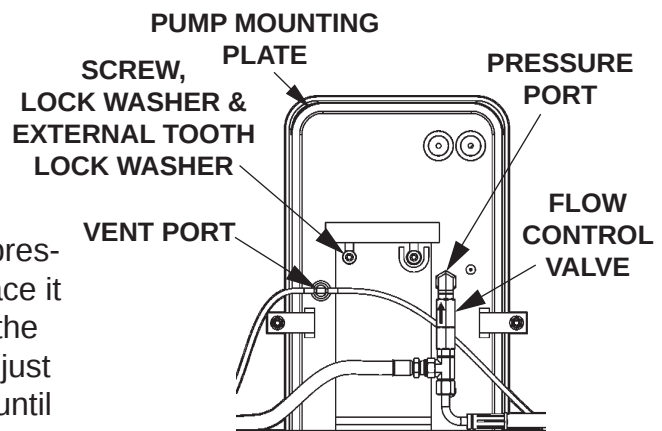

FIG. 77-3
2. Check the Hydraulic Cylinder. With the Platform on the ground, remove the Breather Plug or Vent Line from the Vent Port of the Cylinder (**FIG. 77-3**). Raise the Platform even with the bed. Allow pump motor to run two seconds more while you watch for hydraulic fluid at the Vent Port. A few drops of hydraulic fluid escaping the Vent Port is normal; however, if it streams from the Vent Port, Piston Seals are worn. Replace Seals.
3. Check and clean Flow Control Valve in high pressure hydraulic line attached to Pump Mounting Plate. When installing Flow Control Valve, make sure it is pointing to the direction of restricted fluid flow (pointing up and back toward pump) (**FIG. 77-3**).
5. Verify the Pump Motor is grounded to vehicle frame. Make sure external tooth lock washer is installed under Pump mounting screw and flat washer (**FIG. 77-3**).